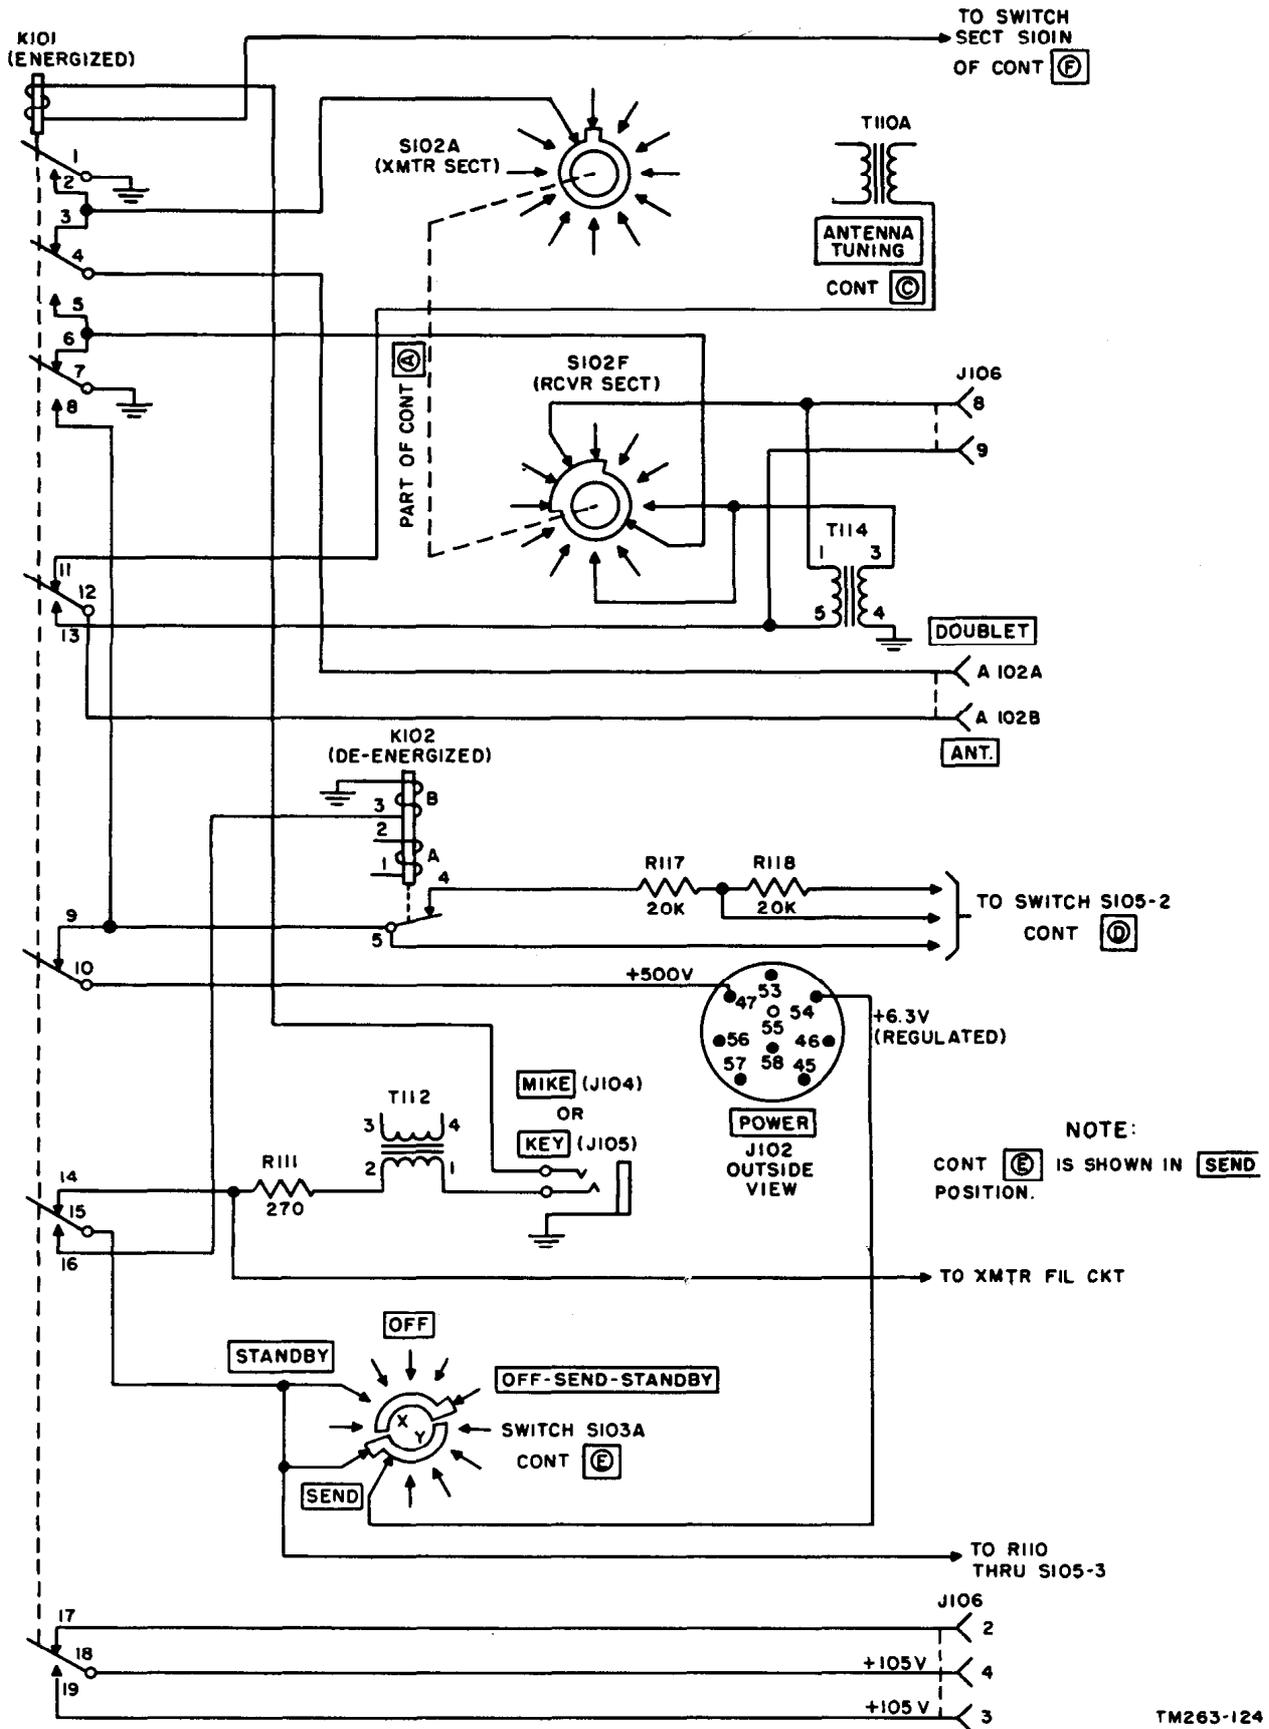

Figure 92. Relay K101 contacts.
b. The transmitter filaments receive their voltage from pin 54 of receptacle J102 (fig. 89). The regulated 6.3-volt supply is fed to switch section S103A, control Ⓟ, and from there to S105-3, control Ⓞ, and also to contact 15 of keying relay K101. When control Ⓞ is in the PHONE position (fig. 88), the tubes and the dial light can receive filament voltage only if contacts 15 and 14 of K101 close (fig. 92); which they do only when the key or microphone button is pressed. When control Ⓞ is in the MCW and CW positions, the filaments receive voltage regardless of the position of the relay contacts (fig. 88).
119. Keying Relay K101 (fig. 92)